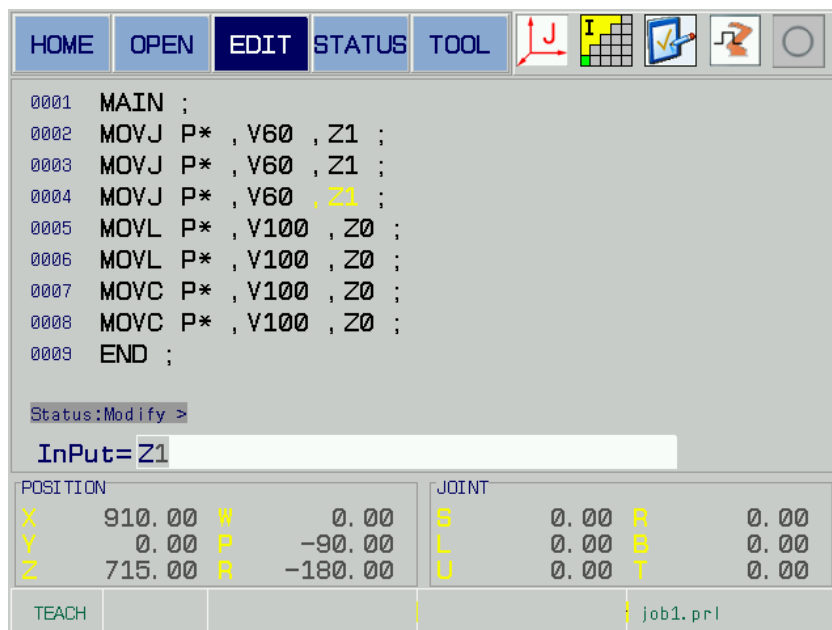

Fig. 5-51
6. The accuracy parameter Z0 of the MOVJ movement command will be replaced into Z1 by [SHIFT] + [INPUT]; refer to the Fig. 5-51.